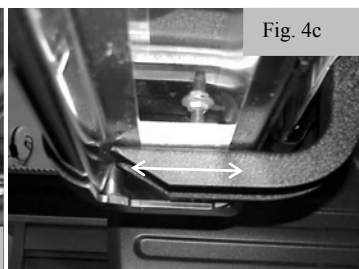

Fig. 4c
- (d) Lift and rotate the Pinch Clips 90 degrees so they are parallel with the Brackets. (Fig 4c)
- (1) Make sure that the tabs on the Pinch Clip drop into the slots in the Bracket.
- (2) Make sure all (4) Pinch Clips are correctly engaged to their respective Brackets